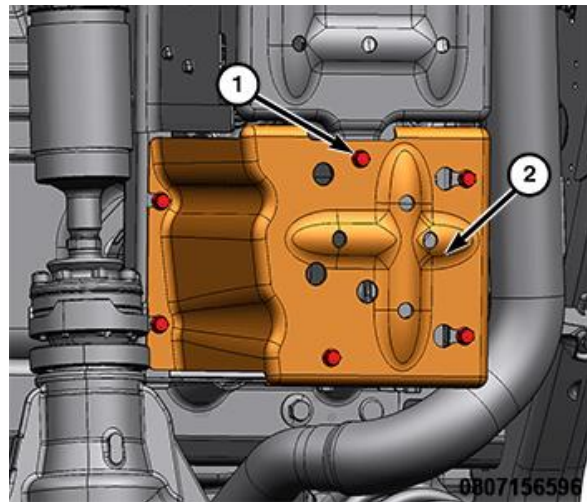

Figure 7 – Skid Plate
26. Remove the fasteners (1) and the skid plate (2) from the vehicle (Figure 7).